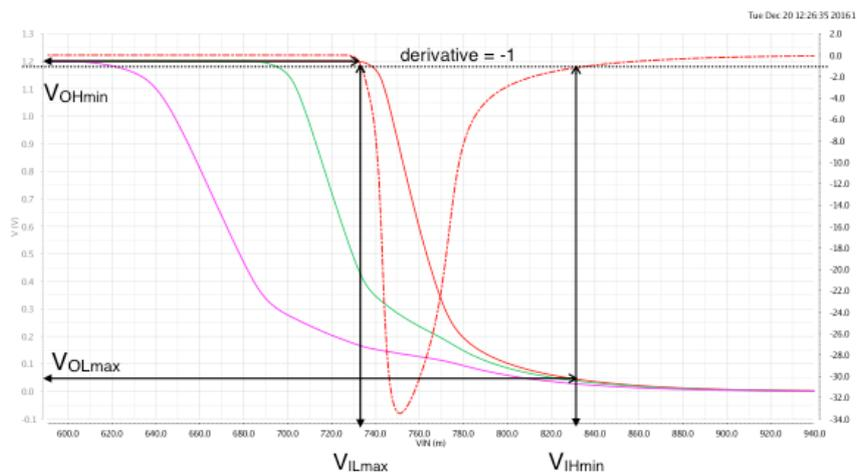

Figure 12.13: VTC with voltages necessary to calculated noise margins for output X indicated.
- b) In Figure 12.13 below the two points that define the four voltages are shown. The resulting values are: For high level $MNH = V_{OHmin} - V_{IHmin} = 1.19 \text{ V} - 0.832 \text{ V} = 0.358 \text{ V}$. For low level $MNL = V_{ILmax} - V_{OLmax} = 0.735 \text{ V} - 0.05 \text{ V} = 0.73 \text{ V}$. As could be expected from the VTC the noise margins are not very equal so this inverter is not that well designed.